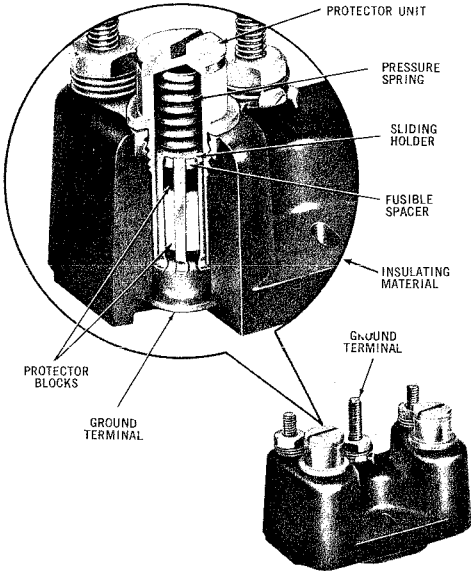

Fig. 1 — 123-Type Protector
2.01 The 123A1A-Type Fuseless Protector (Fig. 1) employs a sliding holder arrangement (2B1A protector unit), which encloses one No. 32A and one No. 33B protector block and a low-melting alloy spacer. This assembly and a pressure spring are located inside the brass cap and, when operated, provide a high-current capacity, low-resistance contact between cap and ground terminal. The flexible fingers of the holder make contact with the ground terminal in the base which prevents the heavy fault currents from flowing through and damaging the contact pressure spring. This protector is recommended as first choice, where applicable, because of its high fault current capacity. It should be used on open or multiple line wire only when the proper grounding electrode is available. The later model of the 123-A1A protector has slotted mounting holes oriented 90 degrees to each other to facilitate the mounting and aligning of protector when the anchor holes are not perfectly centered.